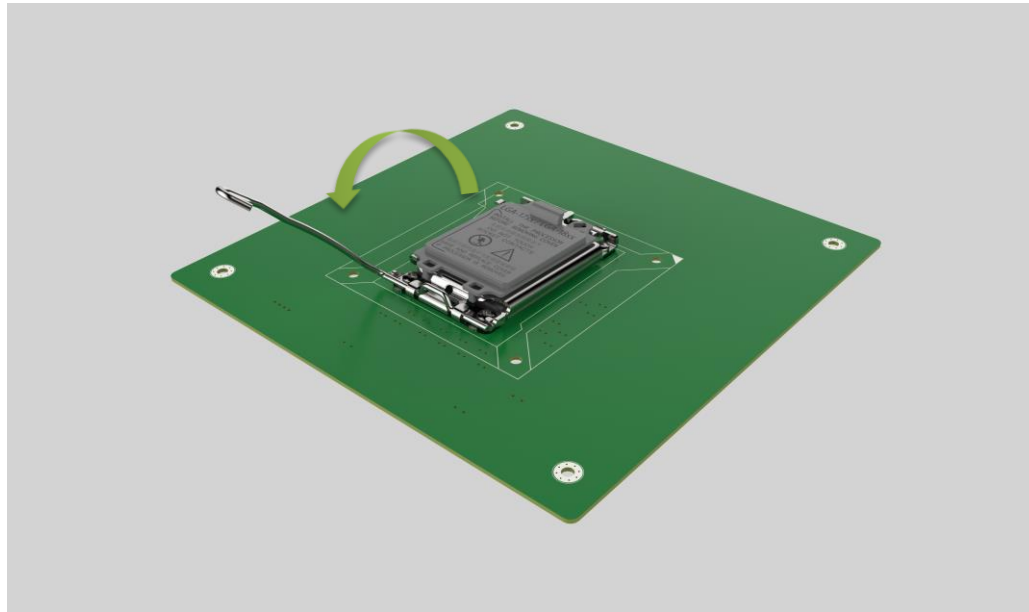

Figure 4-3: Disengage the CPU Socket Load Lever
Step 1: **Disengage the load lever** by pressing the lever down and slightly outward to clear the retention tab. Fully open the lever. See **Figure 4-3**.